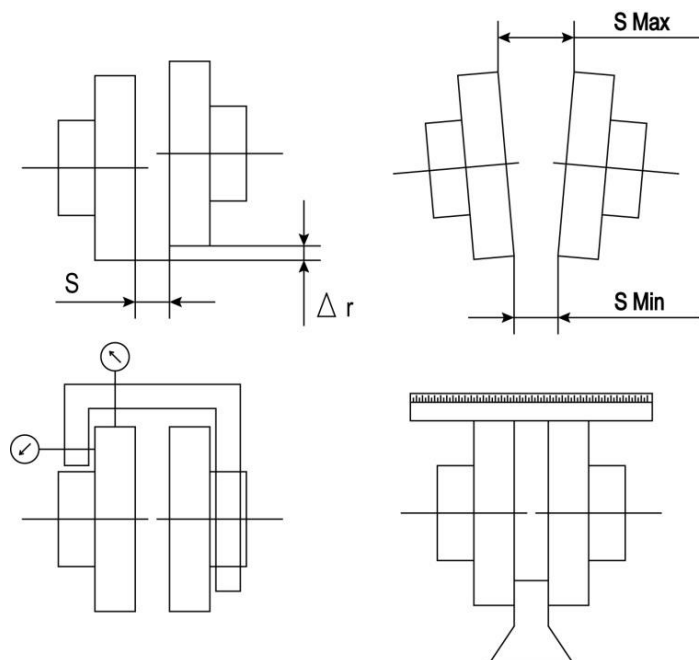

Figure 6
5. Check the alignment by using comparators or gauges with scales as shown in Figure 6.